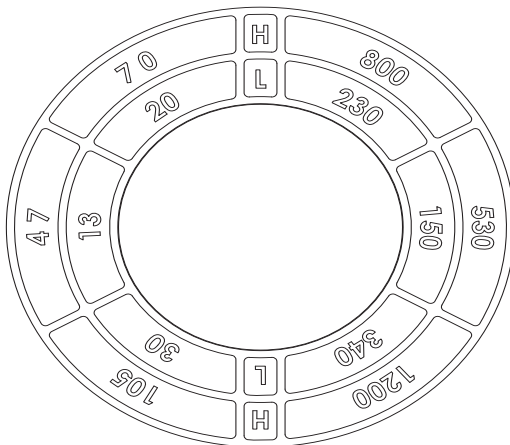

Figure 47. Spindle speed range chart.
2. Use the chart in Figure 47 to determine the available spindle speed range closest to your calculated spindle speed.